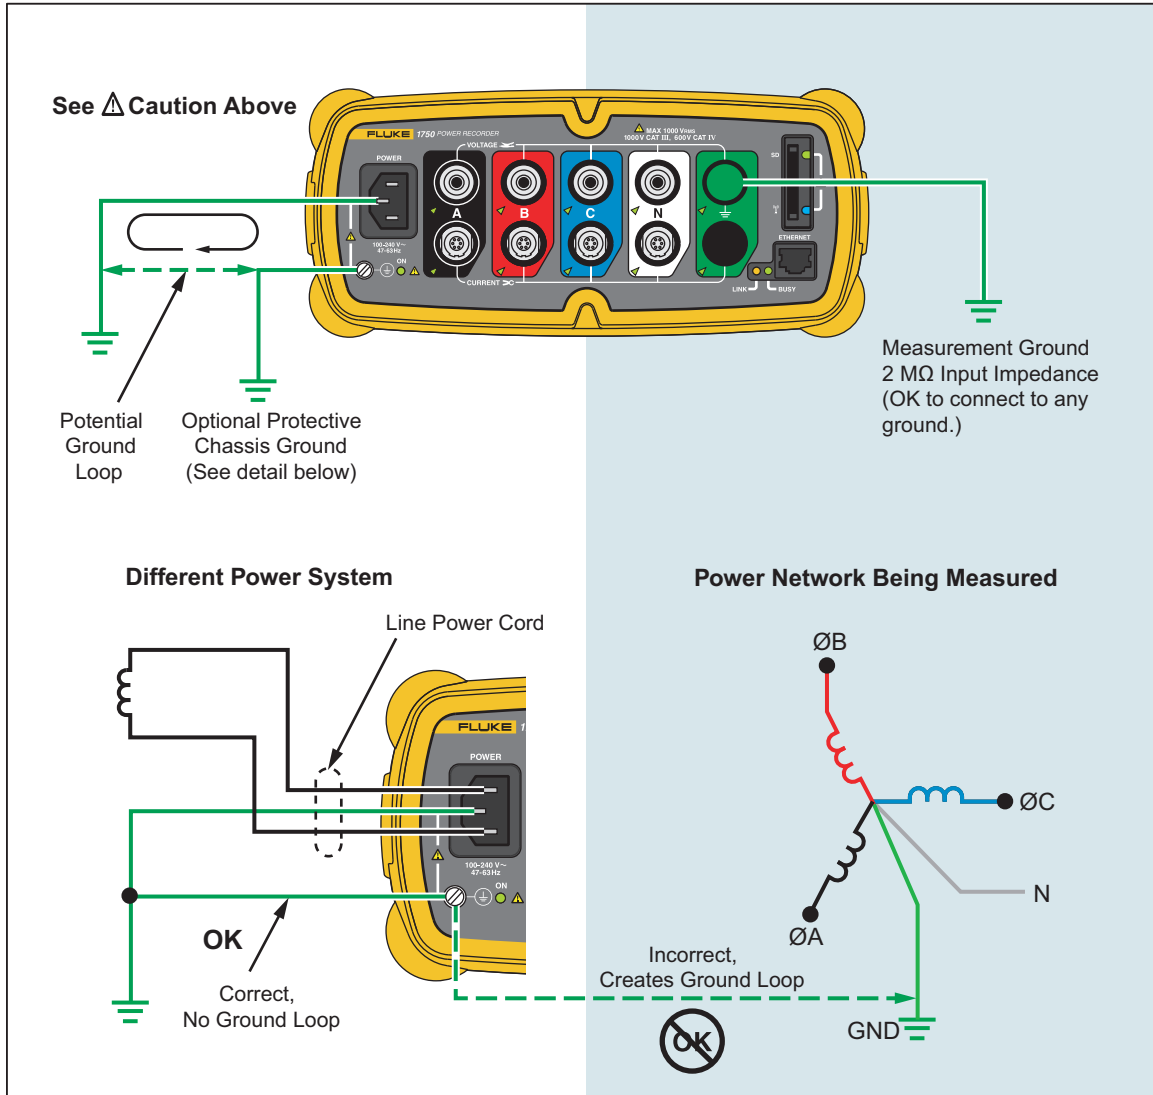

Figure 3. Connecting the Supplemental Ground Terminal
③	Five voltage measurement inputs
④	Removable Secure Digital (SD) memory card for transfer of large quantities of data. You can remove the card from the Recorder, insert in the PDA and transfer data to the PC via the “synchronize data” feature of the PDA. A USB SD card reader may also be used.
⑤	SD status indicator Blinking green Reading from SD card – do not remove the card Blinking orange Writing to SD card – do not remove the card Off No active SD card operation – you can safely remove the card
⑥	Wireless Controller Status Indicator Blinking Wireless controller communicating Off Inactive
⑦	Ethernet port. TCP/IP via Ethernet is used to connect the Recorder to a PC for downloading recorded data, and for configuring the Recorder when not using the PDA. This is the recommended method of data transfer due to its speed and reliability.
⑧	Busy Indicator Blinking Network is busy
⑨	Link indicator Off No link Steady Link Present Blinking Communicating with PC
⑩	Current Measurement Terminals (5)
⑪	Current indicator Steady Current probe in normal range Blinking >110 % of probe range, use a higher range probe Off Current insufficient to measure
⑫	Power LED Steady green AC input power normal, instrument is not booted or locked Green/Orange blinking Recording Blinking red Recorder running on UPS
⑬	Ground Terminal Connecting the supplemental ground terminal and the line cord safety ground to different ground potentials creates a ground loop that can damage the Recorder. To avoid this, use the supplemental ground terminal only when no protective earth ground connection exists through the line power cord. If there is any chance that a safety ground connection does exist through the line power cord connection, make sure to connect the supplemental ground terminal only to the ground system used by the ac receptacle that powers the Recorder. See Figure 3.